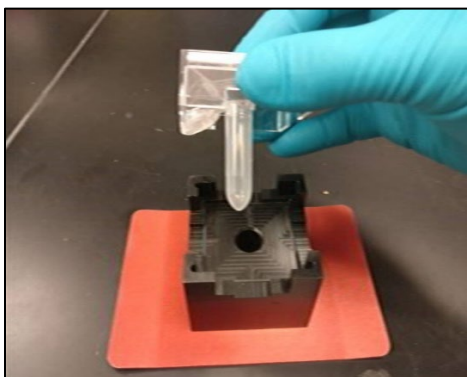

Figure 77. Removing the Collection Tube containing the eluate.
7. Carefully remove the Collection Tube containing the extracted library (Figure 77).